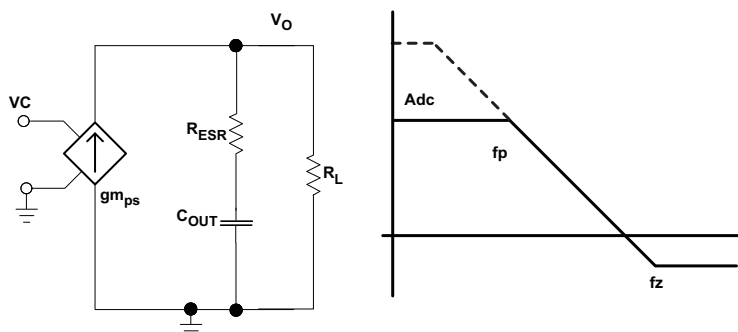

**Figure 31. Small Signal Model for Loop Response**
**Figure 31** shows an equivalent model for the TPS54060 control loop which can be modeled in a circuit simulation program to check frequency response and dynamic load response. The error amplifier is a transconductance amplifier with a  $gm_{EA}$  of 97  $\mu A/V$ . The error amplifier can be modeled using an ideal voltage controlled current source. The resistor  $R_o$  and capacitor  $C_o$  model the open loop gain and frequency response of the amplifier. The 1mV ac voltage source between the nodes a and b effectively breaks the control loop for the frequency response measurements. Plotting c/a shows the small signal response of the frequency compensation. Plotting a/b shows the small signal response of the overall loop. The dynamic loop response can be checked by replacing  $R_L$  with a current source with the appropriate load step amplitude and step rate in a time domain analysis. This equivalent model is only valid for continuous conduction mode designs.
Figure 32 describes a simple small signal model that can be used to understand how to design the frequency compensation. The TPS54060 power stage can be approximated to a voltage-controlled current source (duty cycle modulator) supplying current to the output capacitor and load resistor. The control to output transfer function is shown in Equation 3 and consists of a dc gain, one dominant pole, and one ESR zero. The quotient of the change in switch current and the change in COMP pin voltage (node c in Figure 31) is the power stage transconductance. The  $gm_{ps}$  for the TPS54060 is 1.9A/V. The low-frequency gain of the power stage frequency response is the product of the transconductance and the load resistance as shown in Equation 4.